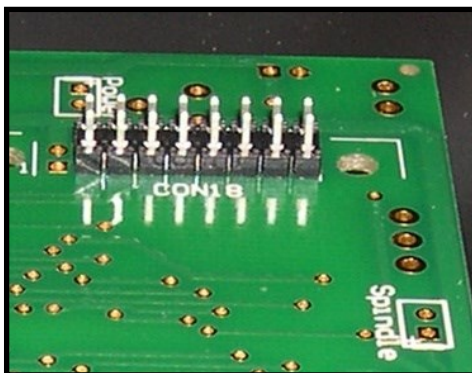

Figure 7d. LCD Header before the screen is attached.
- Solder on to the optional header described on Page 8 and shown in Figure 7d & 7e.